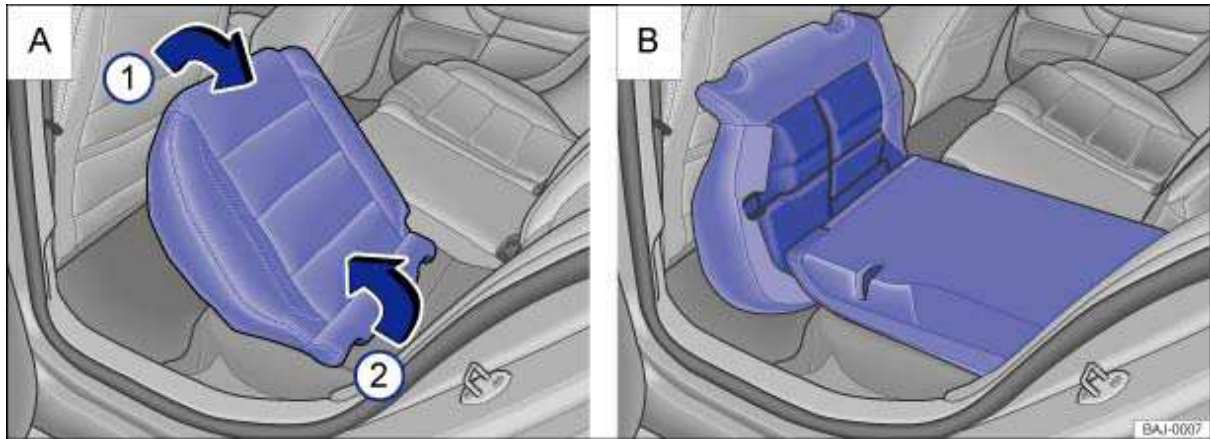
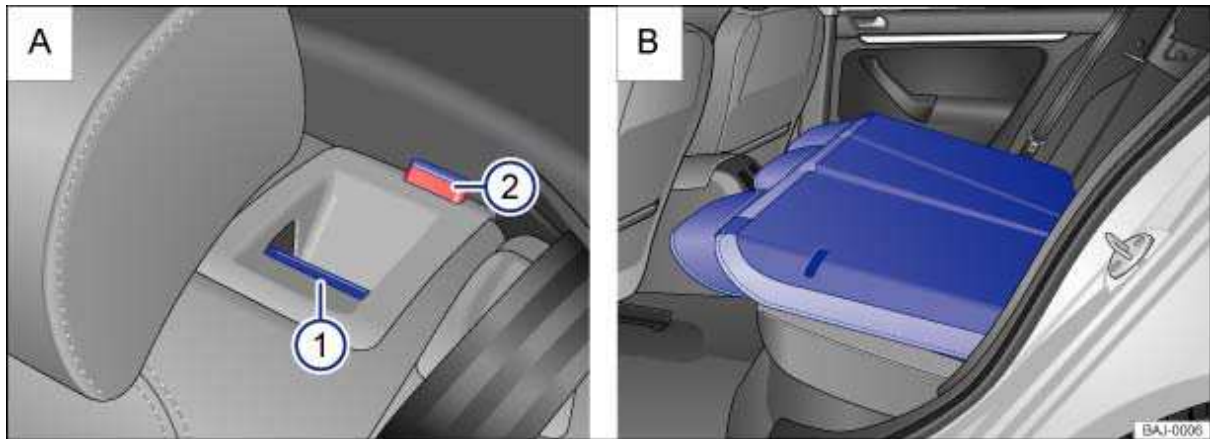

Fig. 96 Rear seat bench: folding up seat cushion.
Fig. 97 A Rear seat bench: release button 1, red mark 2. B Seat backrest folded forward.
- Pull the strap and lift the seat cushion by its front edge ⇒ fig. 96 A (1).
- Fold the seat cushion forward A, (2).
- Pull the release button forward ⇒ fig. 97 A, (1). You can't fold the seat backrest down until the red marking on button A, (2) is visible.